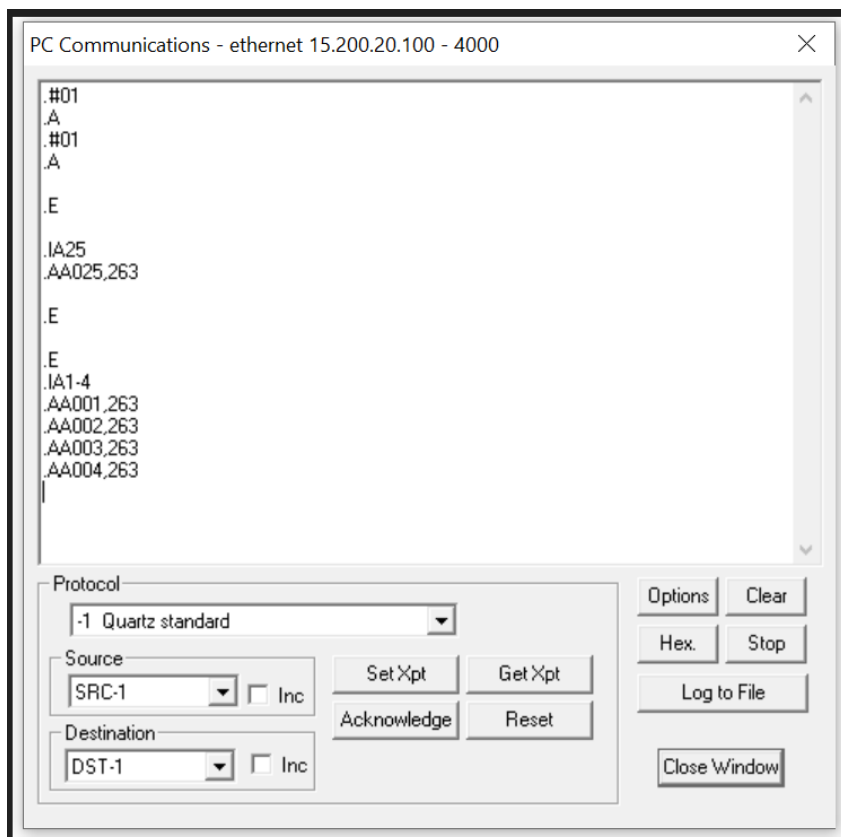

Figure 16-2: PC Comms Window in WinSetup
- Inside comms window type “.IA[DST] [Press Enter]” or for a range of destinations type “.IA [DST-DST] [Press Enter]”. Shown in Figure 16-2.